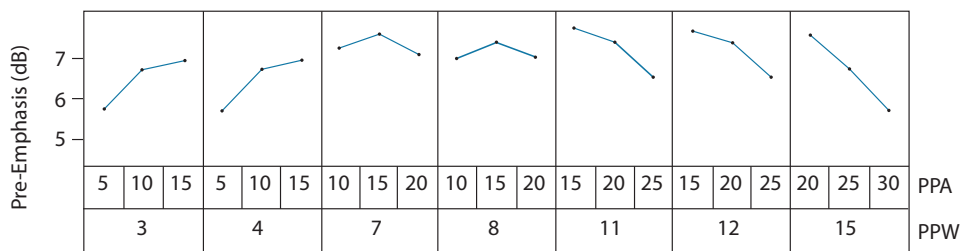
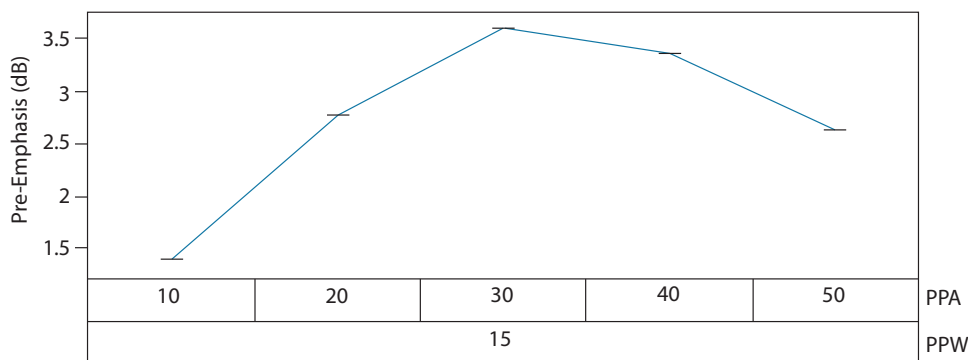

Figure 4-12: Pre-emphasis settings for $VCCO_{<n>}$ = 1.2V and DS = 7 (swing = 200mV_{pp})
Figure 4-19: Pre-emphasis settings for VCCO_<n> = 2.5V and DS = 35 (swing = 800mV_{pp})
The only requirement of the trace driver pre-emphasis settings is to minimize ISI introduced by a lossy link and maximize the eye opening at the receiver. The Pre-emphasis compensation of the GS12142 output channel is a two-step process. The first step is to use the settings from Figure 4-12 to Figure 4-19 that best match the insertion loss of the link in the application, while the second step is a fine optimization procedure.
1. Pre-emphasis Amplitude (PPA) Optimization: Set the PPA and PPW to the values obtained from the graph selected out of Figure 4-12 to Figure 4-19, and then measure the downstream jitter. While keeping PPW constant, increment the PPA by 'a'. If the jitter is lower after the first increment, continue to increment by 'a' until the jitter begins increasing or a setting of 50 is reached. If there was a setting which resulted in a lower jitter measurement than the initial setting, that is the Optimized Pre-emphasis Amplitude setting: PPA_{Optimal}, and the PPA optimization procedure is complete.
If incrementing the PPA or decrementing the PPA did not result in a setting with lower jitter, then the initial setting obtained from the graph selected out of Figure 4-12 to Figure 4-19 is the PPA optimized Pre-emphasis Amplitude setting: PPA_{Optimal}.
2. The second step is to set the PPA to the optimized setting PPA_{Optimal} determined in step 1 and PPW to the values obtained from the graph selected out of Figure 4-12 to Figure 4-19, then measure the downstream jitter. While keeping PPA constant, increment the PPW by 'w'. If the jitter is lower after the first increment, continue to increment by 'w' until the jitter begins increasing or a setting of 15 is reached. If there was a setting which resulted in a lower jitter measurement than the initial setting, that is the Optimized Pre-emphasis Width setting: PPW_{Optimal}, and the optimization procedure is complete.
If incrementing the PPW or decrementing the PPW did not result in a setting with lower jitter, then the initial setting value obtained from the graph selected out of Figure 4-12 to Figure 4-19 is the optimized Pre-emphasis Width setting: $PPW_{Optimal}$.